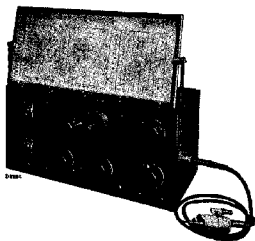

Fig. 1
1. Service oscillator G.M. 2880 F (fig. 1).